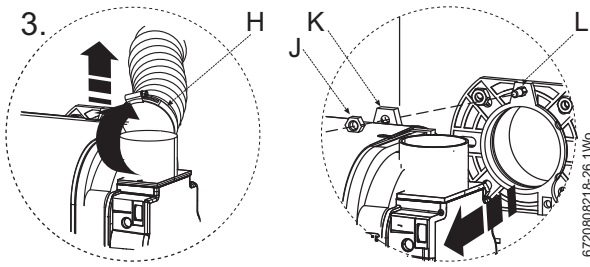

Fig. 37
- Unscrew to loosen the retaining ring (H) that secures the flexible air supply tube to the burner (I) and pull the flexible air supply tube free from the burner (see figure 37).